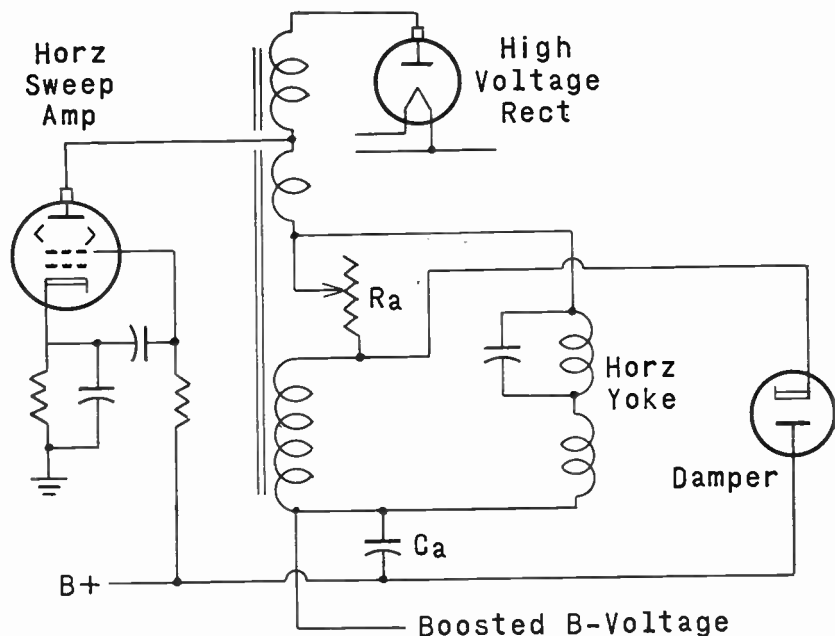

Fig. 12-7. The adjustable resistor between sections of the horizontal output transformer is a horizontal centering control.
The most noticeable feature in Fig. 12-7 is the resistor  $R_a$  between sections of the horizontal output autotransformer. When this resistor is adjustable, as shown here, it is used as a horizontal centering control.
The yoke coils of Fig. 12-7 are conductively connected to the transformer winding, which allows direct current to flow in the yoke. Were there an open circuit at the position of resistor  $R_a$  all plate current from the horizontal amplifier would flow to the damper cathode through the yoke coils. Were there a short circuit at the position of resistor  $R_a$  the sweep amplifier plate current would go the damper through the short circuit without passing through the yoke. Accordingly, adjustment of resistance at  $R_a$  varies the value of direct current in the yoke and thereby shifts pictures to the right or left.
A resistor at  $R_a$  of Fig. 12-7 may be of fixed value rather than adjustable. In still other cases the transformer may be of the same construction, but a direct connection is used instead of a resistance element.
**5-6.** When a resistor is between sections of the transformer winding with the yoke connected at one end of the resistor and the damper tube at the other end (Fig. 12-7) the amount of resistance determines the amount of direct current in the yoke coils. Such yoke current shifts the pictures sideways to a distance depending on the amount of d-c current in the yoke. Varying the value of resistance has little or no effect on picture tube anode voltage, on width or on linearity.